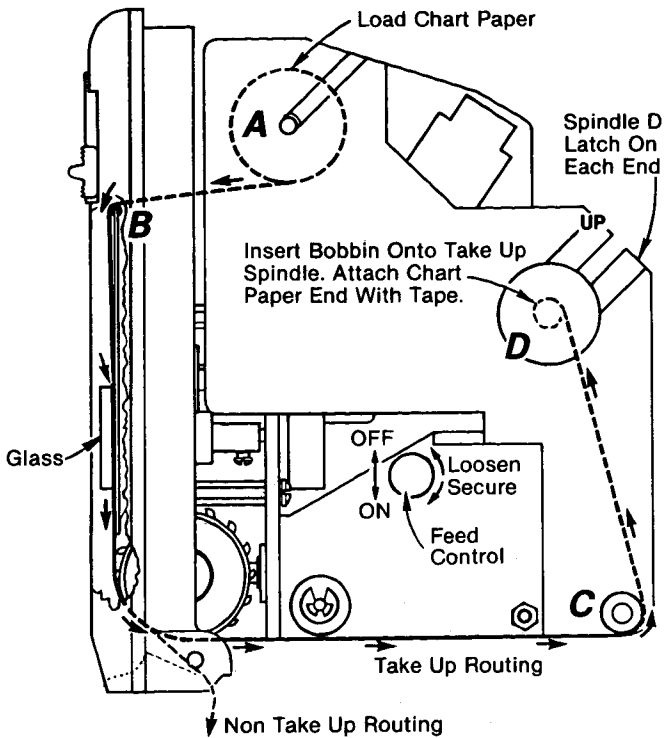

Fig. 7
1. a) To insert chart paper, place recorder in horizontal position and press the release button in the direction shown in fig. 6. Raise the recorder mechanism to a vertical position until it locks. Remove chart spindle **A** (see fig. 7) and place chart roll on spindle. Remove tape on roll and retain tape for securing chart on take-up spindle **D**. Unroll about 12" to 15" and route paper over top edge of scale plate **B** underneath glass, over the sprocket wheels, to the rear and over the idle roller **C** up to the cardboard bobbin mounted on take-up spindle **D**. Secure edge of chart to bobbin with tape. Make sure the sprocket holes in the paper engage the sprocket wheels. Be sure that feed control is tight and in the right position. The word "on" must be visible. Press in the idle roller extension **C** to allow the recording mechanism to move back down into case and lock into position. Replace cover by positioning the "U" bend onto the projections above the chart well opening. Make sure chart paper is not binding with the cover in place. For "non-take-up" recording, route chart through bottom slot as shown in fig. 7.